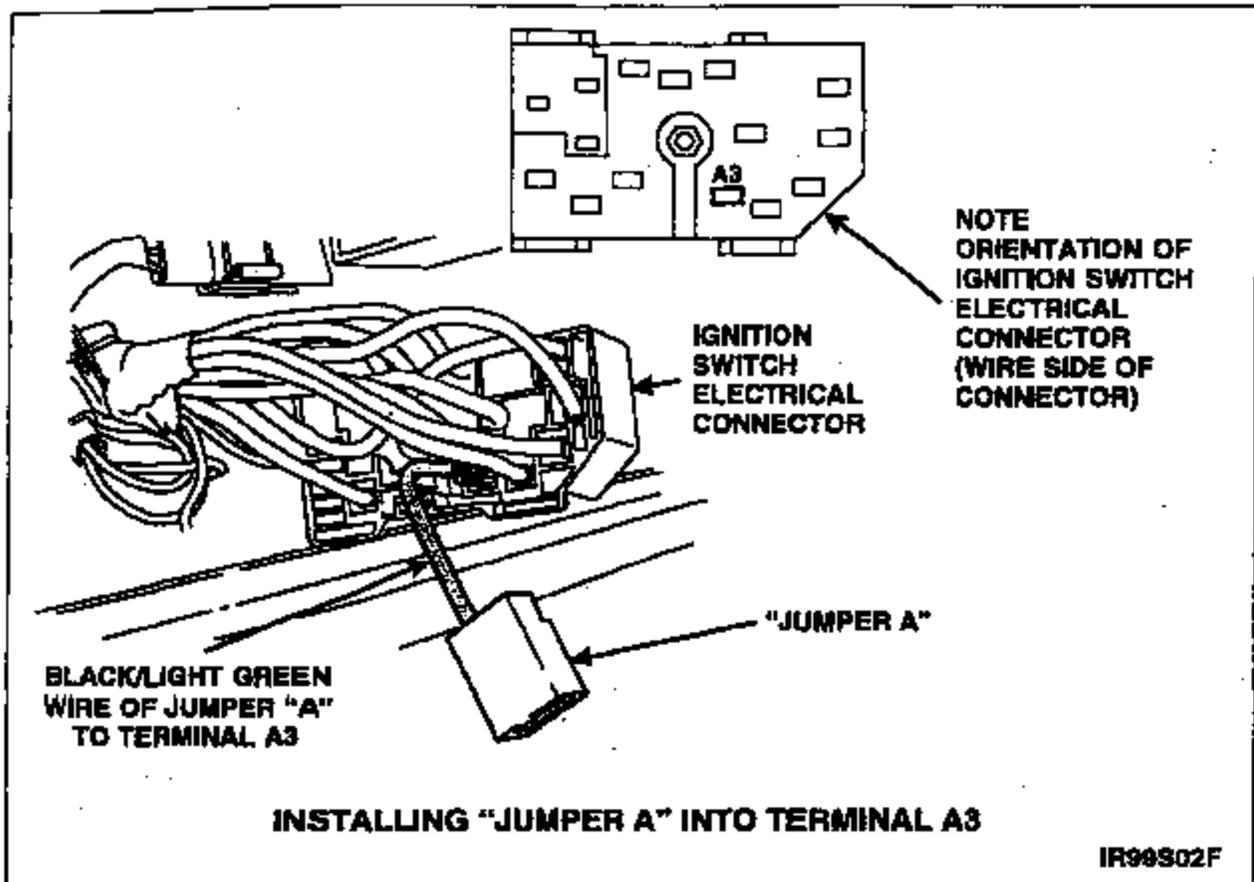

FIGURE 6
8. Install the black/light green wire of "Jumper A" into terminal A3 of the ignition switch electrical connector. See Figure 6.